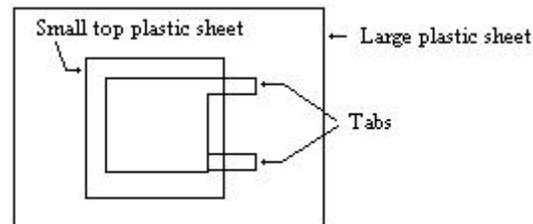

Figure 3
- Clean a third sheet of mylar and place it on top of the second piece of foil, making sure that only the two tabs protrude from under this sheet. When finished the stack should look like *Figure 3* below.